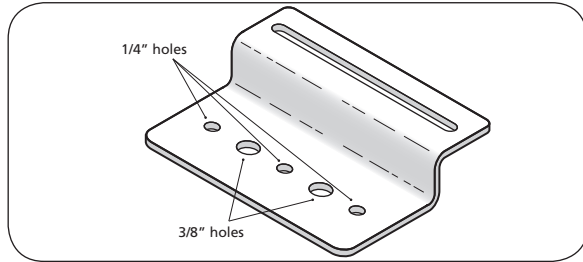
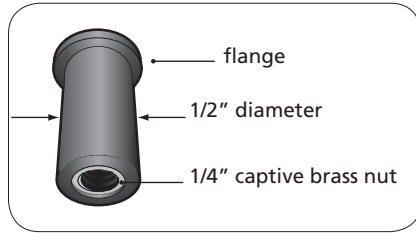
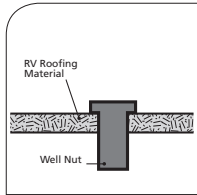

Fig.1. 5-hole mounting bracket
Fig. 2. Construction of a Well Nut
Fig. 3. Well-Nut is inserted into a pre-drilled hole with its flange against the outer surface. There is no need for access to the inner side.
The SM5-KIT includes four sturdy 5-hole Aluminum mounting brackets (Fig. 1) with stainless steel hardware required to securely fasten a solar panel to the roof of your Recreational Vehicle (RV) or any other flat surface.
A Well-Nut is a bushing of tough neoprene rubber with a flange at the top end and a captive brass nut mounted within the bore at the bottom end (Fig. 2). This is used to anchor the mounting bracket (Fig. 1) on to the roof of the RV or to other flat surface. Typical installation is shown in Figs 3 to 6. Tightening a conventional machine bolt or screw engages the captive nut thereby causing the bushing to expand outwards. This fastens securely to thinner RV roofs by bulging up and against the bottom surface of the roof (Fig. 5). If used in a blind hole in a solid surface material, the rubber will expand outwards to create a secure fastening (Fig. 6). The neoprene and brass resist most environmental conditions. Additionally, the Well-Nut seals the drilled hole effectively against air and liquid leakage.
5. The centre and end holes on the mounting brackets (Fig. 1) are sized to accept the 1/4\" hardware supplied with the kit. If the use of larger sized hardware is desired, holes 2 and 4 can be used.
8. Insert the 1/4\" Well-Nut into the drilled holes so that only the flange section remains above the roof surface (Fig. 3).